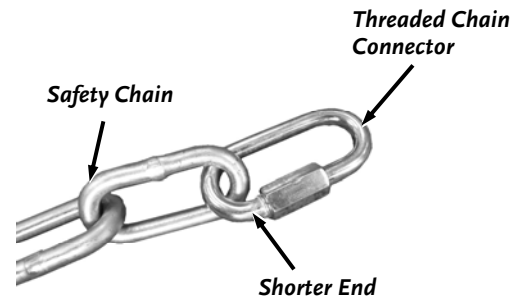

Figure 13
1. Attach a Threaded Chain Connector to the end of each safety Chain and tighten with a 10mm Wrench (**Figure 13**).
Note: In order to attach the Chains in Step 3, position the Chain Connector so that the shorter end is on the side connected to the Safety Chains (**Figure 13**).